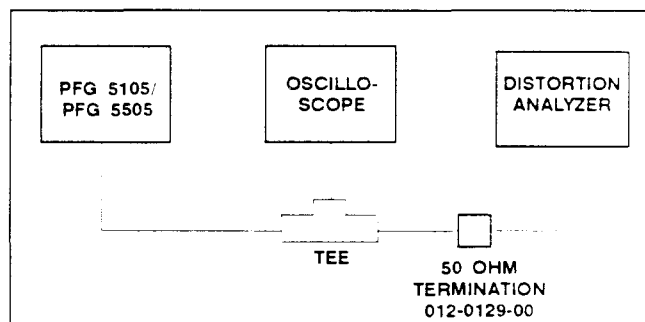

Fig. 3-4. Sine Distortion Adjustment Connections.
a. Connect the distortion analyzer and the oscilloscope vertical input to the PFG OUTPUT with the precision 50 Ω coaxial cable, the BNC T-connector, the second precision 50 Ω coaxial cable, and the precision 50 Ω feedthrough termination (see Fig. 3-4).